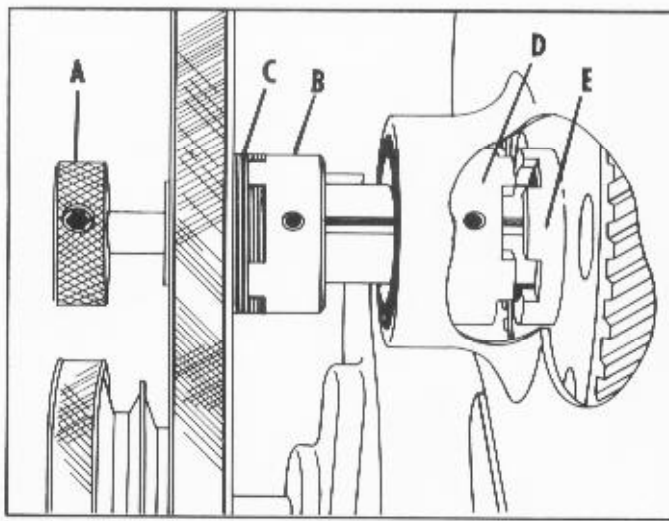

Fig. 22
When using your machine for wood cutting (3000 FPM), the shifter knob (A) Fig. 22 is always pulled out, all the way so that the lugs of the clutch (B) are engaged with the hub (C) of the driven pulley. This will disengage the clutch (D) from the hub (E) of the gear that transmits power through the gear box, as shown in Fig. 22. It may be necessary to rotate the pulley manually in order to line up the clutch lugs with the slots in the hub of the pulley. This provides a direct drive from the motor pulley to the driven pulley, by-passing the gear box.